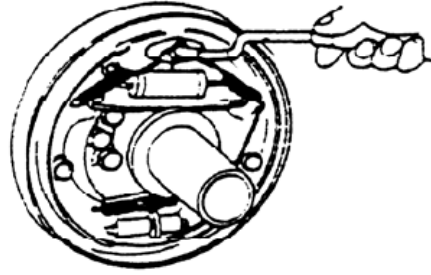

Fig. 2-22
(8) Install the shoe guide plate on the anchor pin, and install the shoe return spring. Install the main shoe first and then secondary shoe. (See Fig. 2-22)